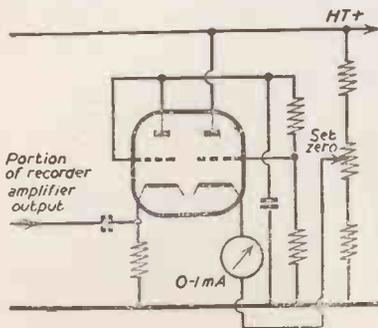

Fig. 5. A typical indicator for recording level.
*The simple types of recording level indicator such as the flashing neon tube and the magic eye can, in the hands of a skilled operator, enable consistent and well modulated tapes to be produced, but for accurate high grade records it is desirable to have an indicator of the valve voltmeter type. Fig. 5.*